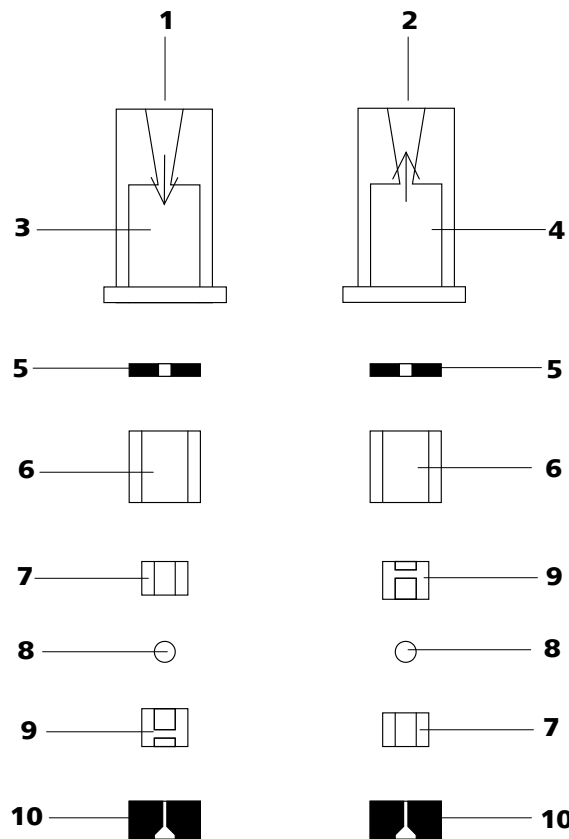

Figure 43 Components of the inlet valve and outlet valve
- The inlet valve and the outlet valve consist of the same, just differently arranged components (see figure 43, page 79).
Reassemble valve components *according to figure 43, page 79*.
- Lay the other valve components above another in the correct sequence (*see figure 43, page 79*).
If this is not the case, the valve has to be dismantled again and be reassembled correctly (see figure 43, page 79).